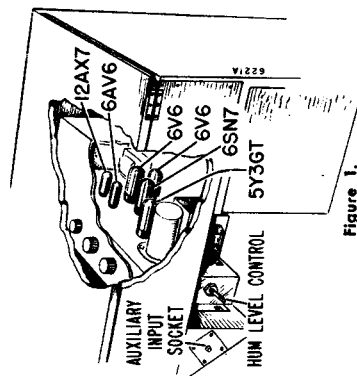

Figure 1.
3. Find **Hum Level** control shaft which extends from rear of chassis (see figure 1). Vary control for minimum hum in output. (Setting R39 for minimum hum feeds to control grid of V1A an out-of-phase 60 cycle voltage of an amplitude sufficient to cancel out any stray 60 cycle hum picked up by amplifier.)